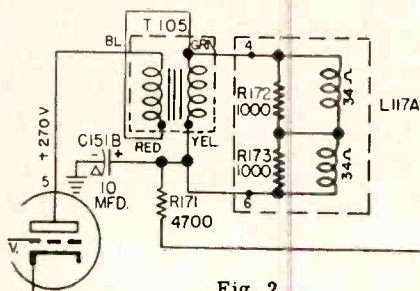

Fig. 2
2. Change *T105* to an Auto-transformer by connecting the secondary winding in series with primary, as is shown in Fig. 2.